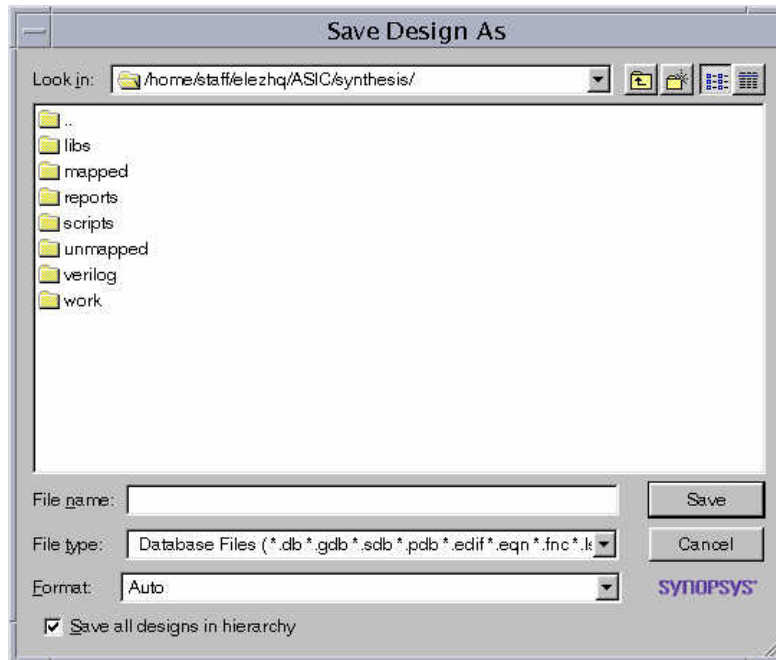

Figure 4-18 Save Design As window.
12. Save the design in ./unmapped/adder32_unmapped.db by clicking on **File→Save As...**. The Save Design As window appears as shown in figure 4-18.